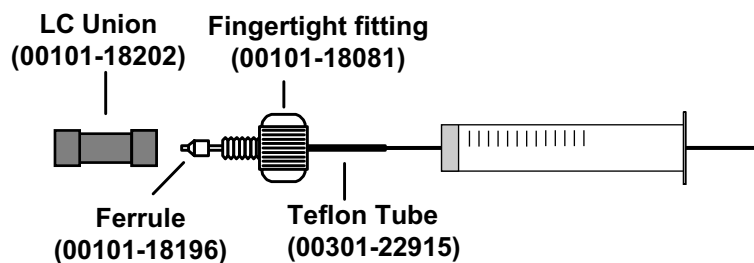

Figure 5-3. Syringe and syringe adapter assembly
- c. Remove the tip of the syringe needle from the end of the Teflon tube on the syringe adapter assembly. See Figure 5-3.